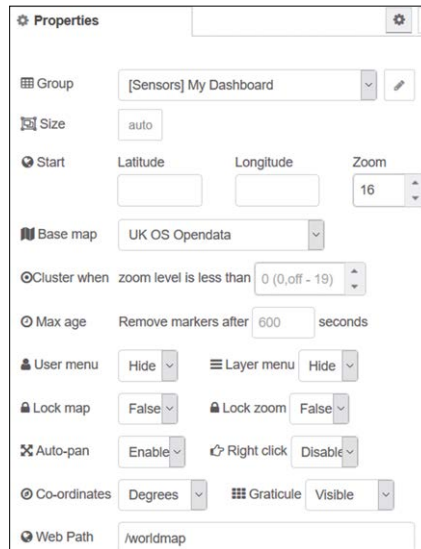

Figure 11.23 Configure node worldmap
- Create a **worldmap** node and configure it as shown in Figure 11.23. Make the following settings (assuming you are in the UK):